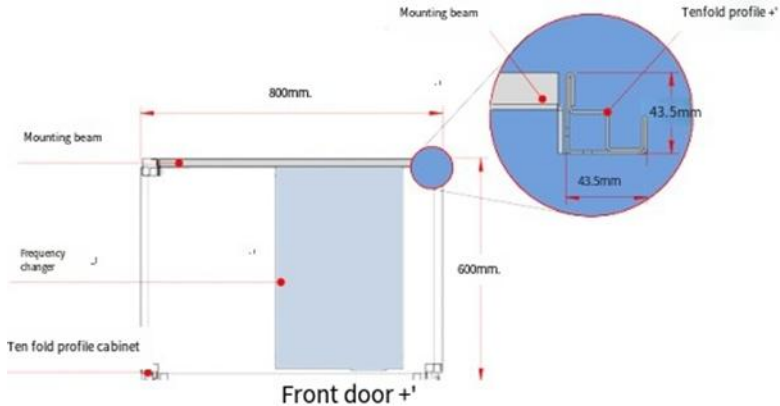

Figure 4-6 Top view of F580 55 to 500kW models in cabinet
- a. It is recommended that the cabinet body use a nine-fold profile cabinet (PS cabinet). The section of the nine-fold profile cross section is shown in Figure 4-6.